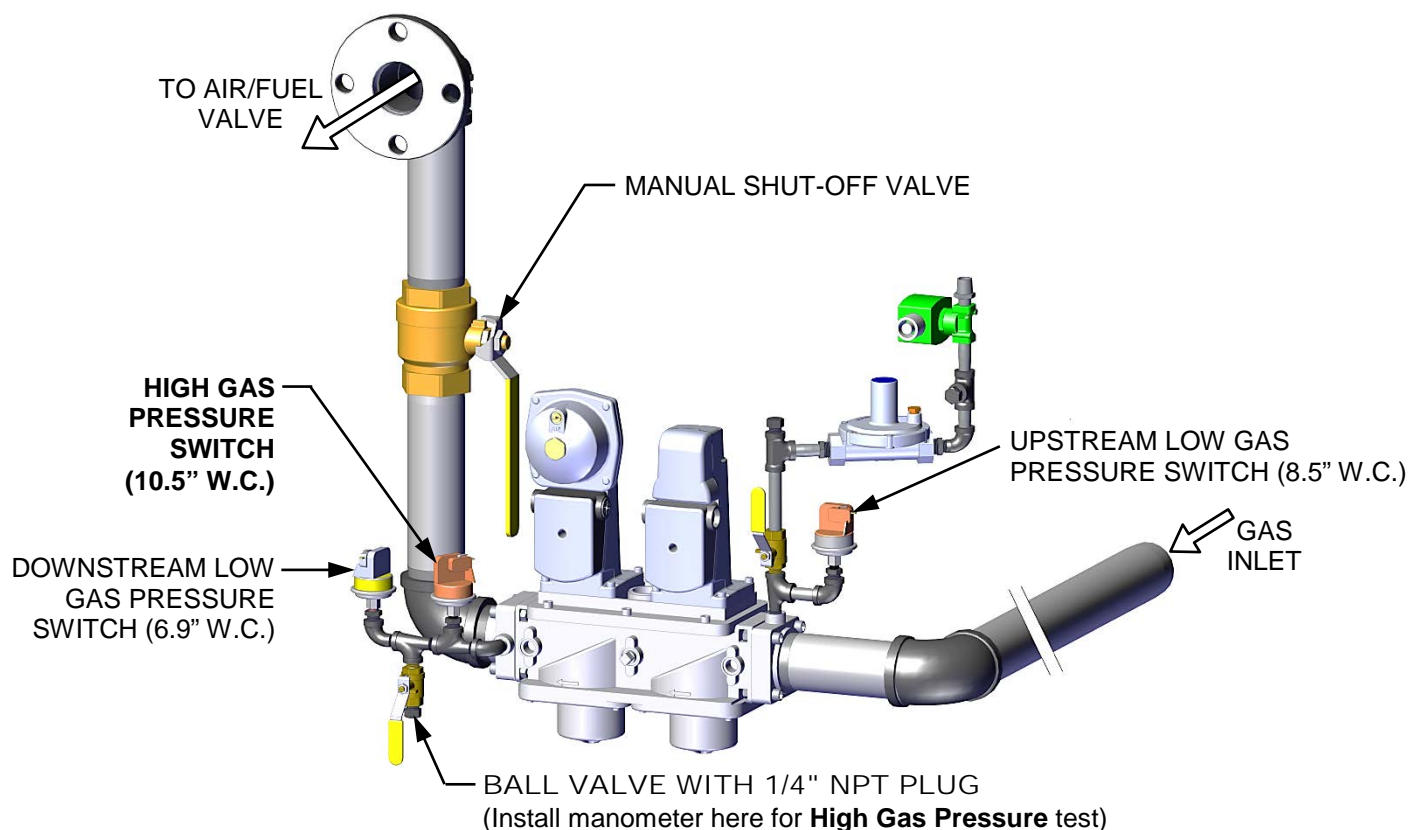

Figure 6-1B: High Gas Pressure Test
To simulate a high gas pressure fault, refer to Figure 6-1B and perform the following steps:
1. Remove the 1/4" plug from the ball valve shown in Figure 6-1B.